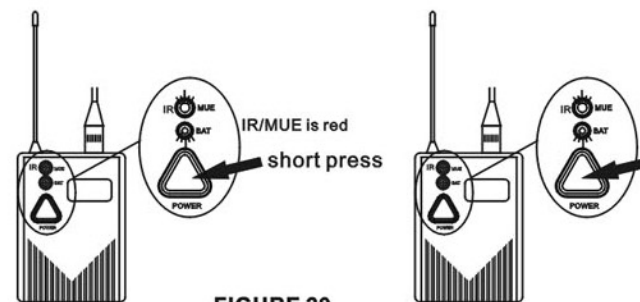

FIGURE 29
b. When the green IR light of change to red MUE light, indicate the system finishing adjusting code and enter MUE(MUE BAT light), at the time, please short-press POWER and enter normal operation; on the contrary, the system don't finish adjusting code and need re-adjust code.(Figure 29)